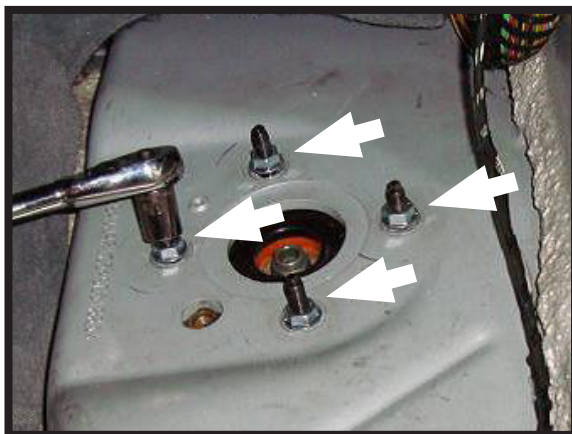

FIGURE 16
5. REMOVE THE FOUR (4) AIR STRUT MOUNTING NUTS. (FIGURE 16)